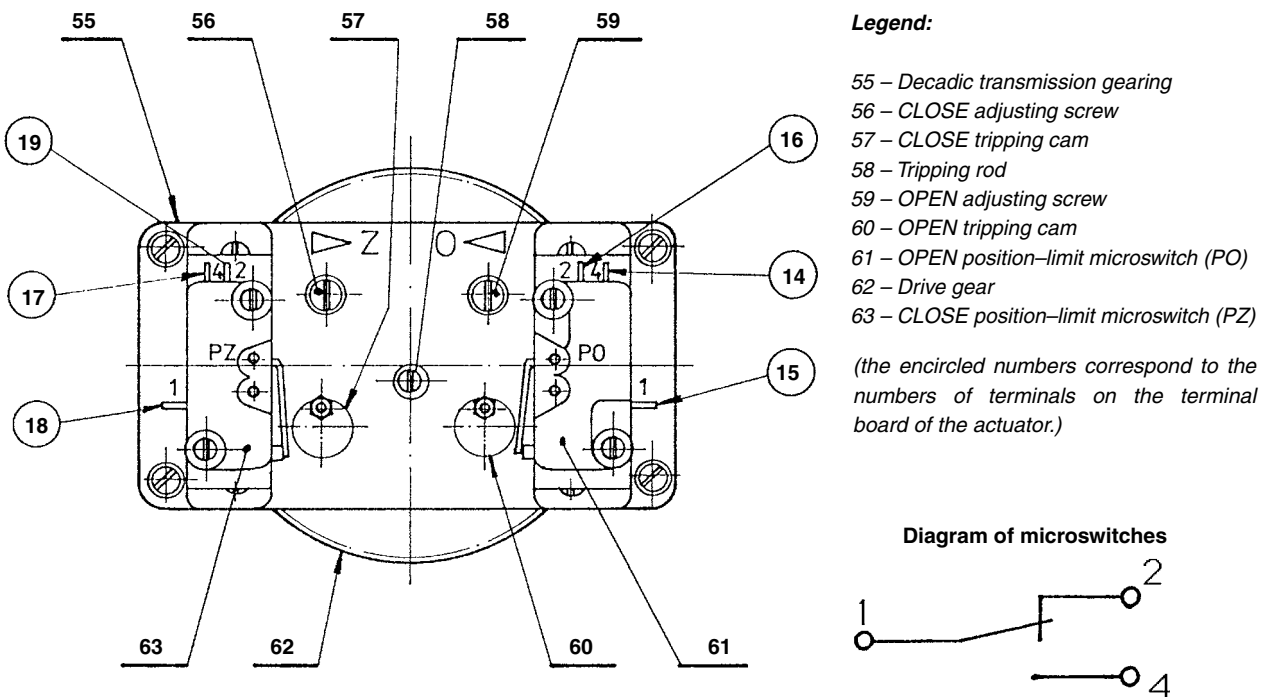

Fig.6 - Position-limit switching unit
c) Position-limit switching unit (Fig. 6)
If the cams are in the position shown in Fig.6 before they are adjusted, or the cam has already pressed down the button of the microswitch, the following procedure is used to advantage: